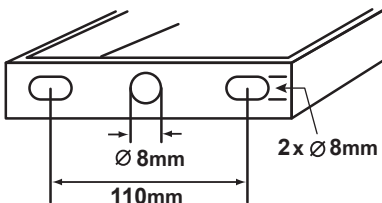

FIG. 2 Fixing holes size of bracket
2. Mark the hole positions for fixing bracket onto the wall. Drill and plug the wall at the marked positions. Screw the fixing bracket to the wall with suitable screws (not supplied) (see Fig. 2).